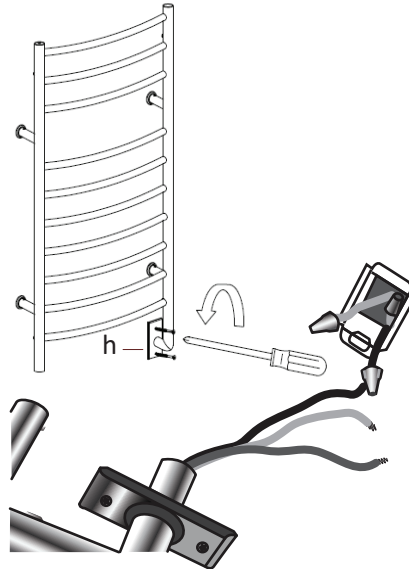

Figure 5
Step 5: Installing hard wire leg (Figure 5)